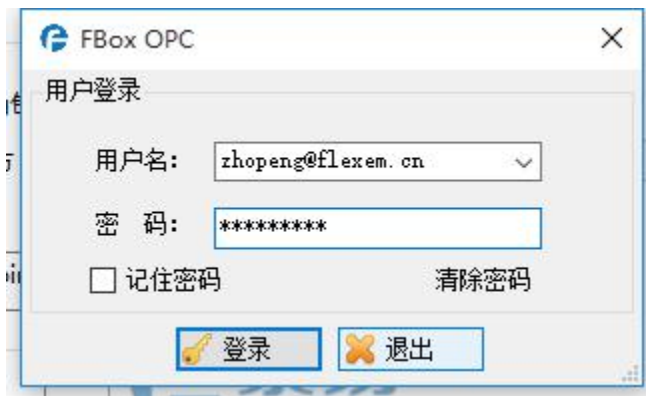

Fig. 4.10-1 Log on in the FBoxOPC software
(1) Open the FBoxClient software and add the required data monitor items in "Monitor" function page.
(2) Open FBoxOPC software and log in with the account (input the user name and password) which is registered in FBoxClient software, as shown in Fig. 4.10-1.